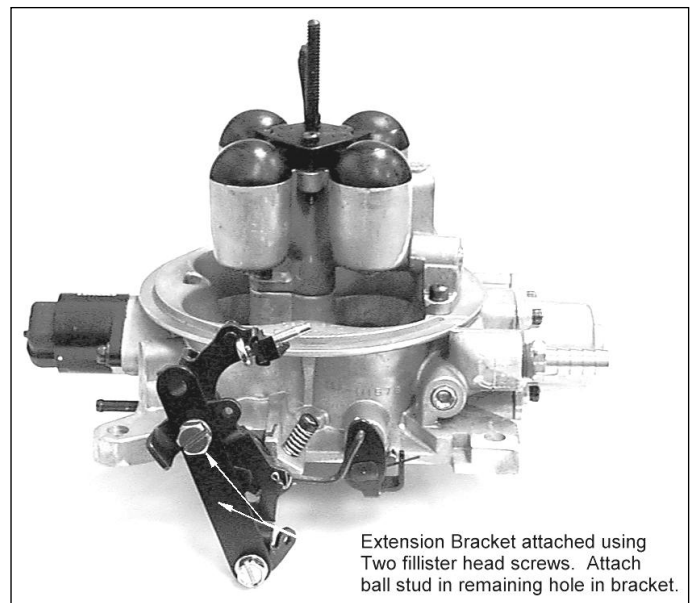

Figure 1
1. Measure the length of the throttle lever arm on the carburetor removed from the vehicle. Compare the length of the existing throttle lever arm with the one on the **HP EFI** throttle body. If the two throttle lever arms are similar in length (within 1/2" of each other), the throttle lever arm hole on the **HP EFI** throttle body can be used without the extension bracket. Use the throttle lever arm extension bracket, if the old throttle lever arm is significantly longer than the new throttle lever arm. Before installation of the bracket, check the diameter of the throttle cable stud. Some systems may use a 1/4" stud that will require drilling of the appropriate hole in the extension bracket to a 1/4" diameter. Attach the extension bracket using two fillister head screws as shown in Figure 1. The extension lever length can be adjusted using the four sets of holes.